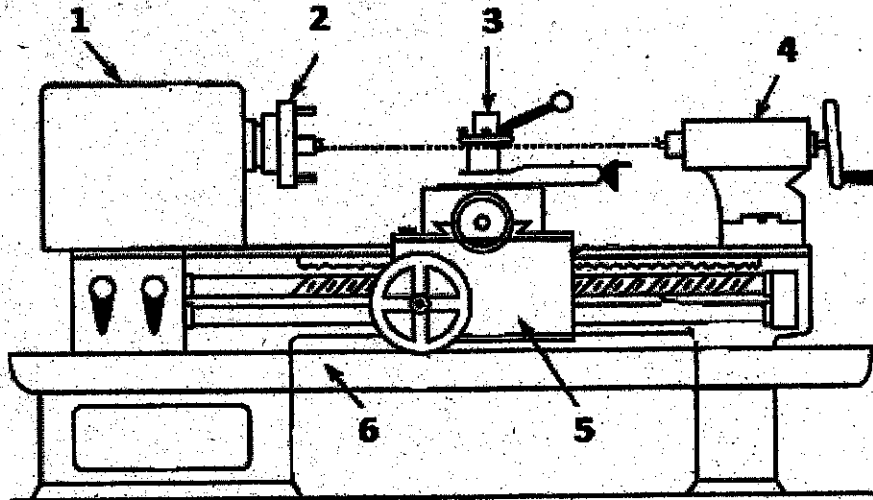

Figure 1
- 25. Identify the parts of lathe shown in Figure 1 and explain the various operations that can be performed on the lathe.